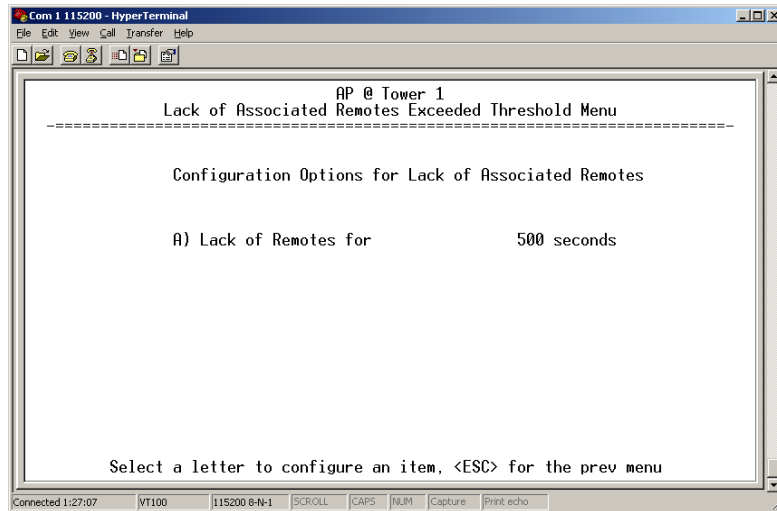

Figure 3-38. Lack of Associated Remotes Exceeded Threshold Menu
- **Lack of associated remotes exceeded threshold**— This setting determines whether or not a switchover occurs when a lack of associated Remote units exceeds the time period set in Figure 3-38 on Page 67. [**enabled, disabled; disabled**]
- **Lack of Associated Remotes Exceeded Threshold**—This selection presents a submenu (Figure 3-38) where you can view or change the time period allowed for a lack of associated Remotes.